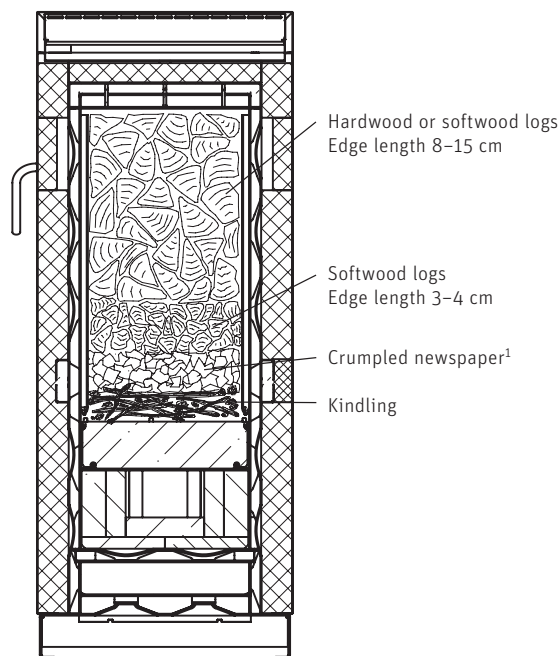

Fig. 9 Section through the filling chamber
- 2.) First **add** smaller then larger **split logs** of increasing length and fill up filling chamber as required – Fig. 9.